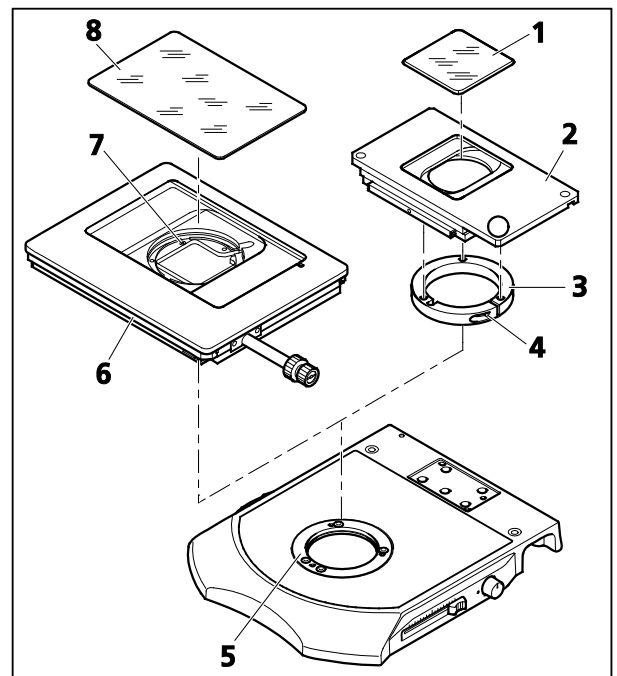

Fig. 15 Mounting stage with 120 mm mounting face on transillumination base 300
- Insert stage with mounted clamping ring (Fig. 15/2 and 3) into the adapter (Fig. 15/5) or stand base and align.
- Secure the clamping ring (Fig. 15/3) in the adapter ring by turning the socket head screw (SW 3) (Fig. 15/4) clockwise.
- Install the insert frame or plate (Fig. 15/1).
- Set stage (Fig. 15/6) on the adapter or stand base. Ensure that any existing orientation elements on the underside of the stage engage correctly in the corresponding grooves.
- Secure the stage with the three captive screws (Fig. 15/7).
- Install the insert frame or plate (Fig. 15/8).